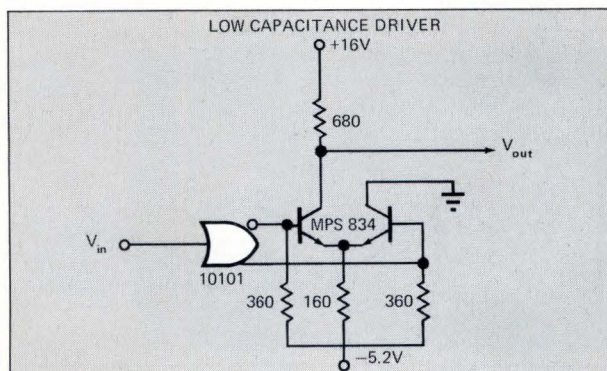
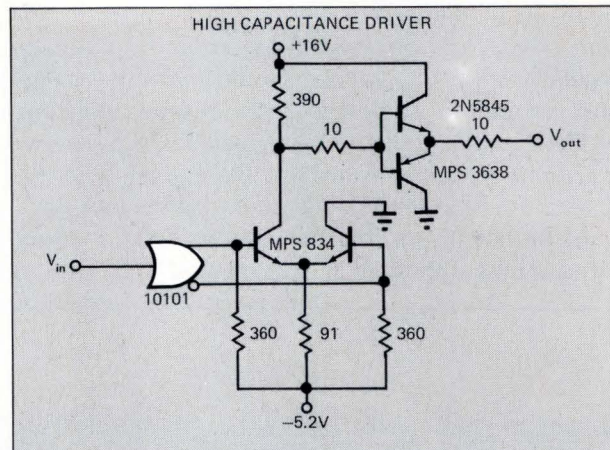

Fig. 6—Low-capacitance MECL-to-MOS driver.
Fig. 7—High-capacitance MECL-to-MOS driver adds current boosting.
Due to the low capacitance and non-critical transition times imposed on the data input lines, the simple driver illustrated in Fig. 6 can be used. In order to drive the other lines in the time specified, it is necessary to add current boosting as in Fig. 7.
- Clock drivers and address level shifters should be placed as close as possible to the memory array to keep ringing problems to a minimum. For example, assume that the read/write line is 16 in. long and has a measured characteristic impedance (Z_0) of 120Ω. The line, when mounted on G-10 fiber-glass epoxy board, has a width of 0.015 in. and exhibits a propagation delay of 0.15 nsec per in. The high-capacitance driver used is the one given in Fig. 7. This driver has a typical output impedance for both the HIGH and LOW states of approximately 10Ω without the damping resistor. Since two read/write translators are used for each 4k words of memory, the maximum capacitance seen by each driver is 540 pF.